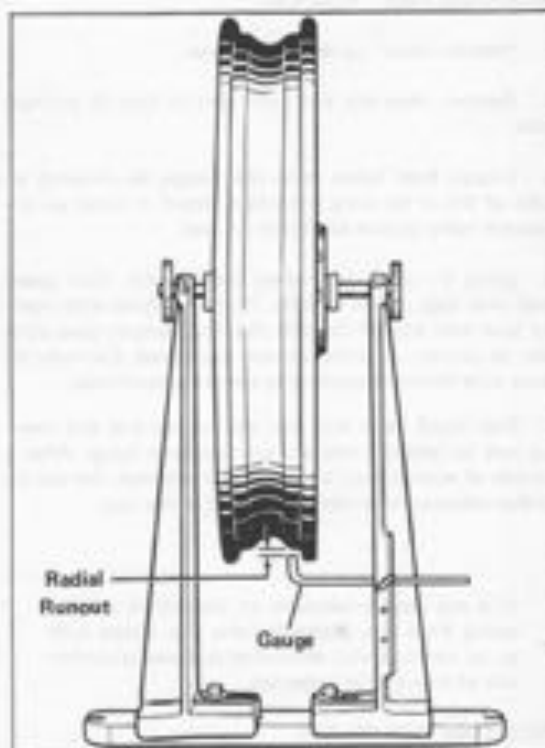

Figure 2-18B. Checking Cast Rim Radial Runout
2. See Figure 2-18B. Check for radial runout as shown here. Replace the wheel if runout exceeds  $1/32$  in.